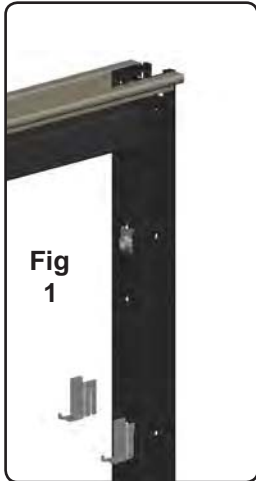
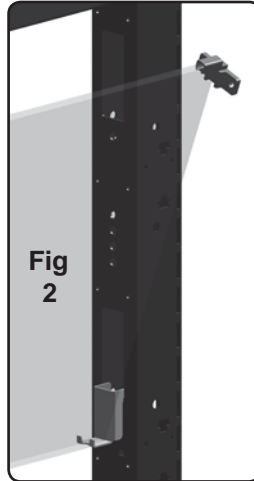
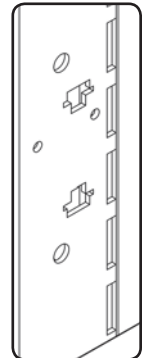

Fig 1
Fig 2
Fig 3
**CAUTION:** Do not over tighten vertical cover top nuts or bottom screws (Fig 2 & 3).
Use (2) per 2-way & 3way vertical covers. (Fig 3)
Use (2) per 2-way & 3way vertical covers.(Fig 3)
**TIP:** When installing METAL passthrough cables through 90 degree corners, INSTALL EACH END THROUGH OUTSIDE OF CONNECTOR WITH COVER OFF, rather than trying to snake cable from one side to the other. (Fig 2)
**RECEPTACLE MOUNT BASE FEED** - Screw **Receptacle Mounted Base Feed** into place with (1) #8-32 x 1/2" panhead machine screw. Base feed Screw **MUST BE USED**.
**IMPORTANT** - End of base feed with exposed wires **MUST BE RUN THROUGH ELECTRICAL TILE duplex hole BEFORE** hardwiring to building power. (Fig 1)
**POWERPOLE AND CEILING FEED** - Remove top tile retainers for frame where pole is to be installed. (Fig 2) Install powerpole base bracket as shown and tighten 1/4-20 set screws in bracket to secure to frame. Slide pole shell over base bracket and tighten 8-32 x 3/8 set screws in bracket to secure shell. **Connect Ceiling Feed to I-Connector to 21 inch Extended Panel to Panel Jumper to I-Connector** to a SPECIFIED pass-through jumper which will continue the power run, and lay in pole cavity. **FIBERGLASS JUMPER MUST LAY AT FRAME HORIZONTAL.** SEE FIG 3. Re-install Top Tile Retainers with fiberglass cable **BETWEEN** frame horizontal and retainer. (Fig 4). Install Pole Cover by snapping onto shell. Install **SPECIAL SIZED FRAME TOPCAP AND SHORT CUTOUT TOPCAP** around pole. (Fig 5)
**IMPORTANT :** End of base feed with exposed wires **MUST BE RUN THROUGH ELECTRICAL TILE duplex hole BEFORE** hardwiring to building power. (Fig 1)
Used to connect Ceiling feed to fiberglass cable and then fiberglass cable to pass through cable. (Fig 3)
**GLASS TILE INSERT INSTALLATION:** Locate electrical pass through hole which is nearest the bottom of where the insert will be suspended. Insert Mid Bottom Glass Holders into the electrical hole so that the "slots" on the holder "hooks" onto the bottom edge of the electrical hole. (Fig 1) Repeat on the other side of the frame.
On the glass, place the Top Insert Retainers over the top edge of the glass on the upper left and right corners. (Fig 2) Rotate glass up between frame verticals and screw Top Insert Retainers to frames with 8-32 Pan Head screws. (Fig 3)
**TILE INSTALLATION** - Mid Tile Retainers are required BETWEEN every tile indicated on the elevations print. (See Previous page). All Matrix tiles are installed by inserting top of tile under lip of the Tile Retainer (horizontal aluminum extruded bar) above where tile is to be installed. CENTER TILE ON FRAME and rotate bottom of tile inward above lip of tile retainer below tile installed. BE SURE TILE IS BETWEEN SIDE WALLS OF MID TILE RETAINER L-Clips located at the ends of each tile retainer. (Fig 1). LIGHTLY PUSH TILE DOWN to seat tile approximately 1/8 inch down into bottom channel. METAL AND LAMINATE TILES have foam blocks on the top of the tile which act as springs to push the tile down into place and act as anti-dislodgement for the tile. (Fig 2)
- 2) Using a #1 flathead screwdriver, GENTLY bend fabric tile retainer over to "grip" edge of fabric tile. (Fig 1)
**MATRIX TRIM INSTALLATION** - Matrix trim is designed to interlock with diecast parts. Endcaps and Hilos ship with the Diecast topcaps pre-installed. Installing an Endcap or Straight hilo requires lifting adjacent topcap and pressing end of topcap into diecast Endcap Topcap and engaging Endcap on frame while holding frame topcap into endcap. See Below. There are 2 types of HILO trim, specified by the situation. HILO situations at a 90 degree connector require a Connector Hilo Trim Kit (Fig 1). HILOS in a straight line require a Straight Line HILO trim kit (Fig 2).
Endcaps and both Hilo types install on frames by hooking riveted retainer clips onto ELECTRICAL CHASE HOLE IN FRAMES OR CONNECTORS. There are 2 SLOTS on retainer clips. The "outboard" Slot/Hook is for future matrix product connections. Use "Inboard" Hook/Slot for described installations. (Fig 3)
**PANEL TOP WORKSURFACE INSTALLATION** - Remove Top Tile Retainers from frame on which panel top worksurface is to be installed. Install Panel Top Worksurface Support Brackets by laying over frame horizontal and "twisting" into place. (Fig 1) SLIDE BRACKETS SO THAT END OF BRACKET IS 5 INCHES FROM FRAME VERTICAL, (Fig 2). Install PANEL TOP WORKSURFACE TILE RETAINERS on frame where top tile retainers were. These special top retainers have slots in them where the wings on the countertop bracket are. Install Frame Topcap. Center Panel Top Worksurface over brackets and screw down with worksurface screws.
**OPEN FRAME WORKSURFACE INSTALLATION** - For Open Frame Worksurface installation mount open frame countertop brackets to the vertical frame at powerway hole locations with (8) #8-32 x 1/4" panhead machine screws with #2 phillips drive. Then mount the Mid Tile Retainers, Open Frame Tile and then worksurface, in that order.
**Matrix 1 to Matrix 2 Frame Connection** - You can connect the latest version of Matrix frame to the previous version with the use of an adapter bracket. (Fig 1)
Insert the "Hooked" shaped protrusions on the adapter bracket into the C-clip holes located on the Matrix Version 1 frame as shown fig 2. Insert bracket up at an angle, rotate bottom in, and tap down with hammer to seat teeth on the lower wall of the lower c-clip hole.
Insert the "Hooked" shaped protrusions on the adapter bracket into the C-clip holes located on the Matrix Version 1 frame as shown fig 3. Insert bracket DOWN at an angle, rotate TOP in, and tap UP with hammer to seat teeth on the UPPER wall of the UPPER c-clip hole.